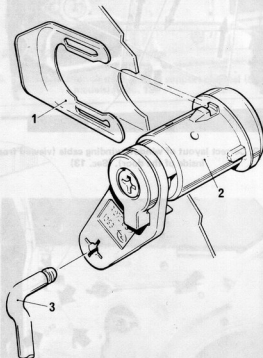

Fig. 12.19. Door lock cylinder components (Sec. 16)
- 6 To remove the lock cylinder, extract the sliding clip '1' (Fig. 12.19) and disconnect the rod '3'. The lock assembly can now be withdrawn from within the door.